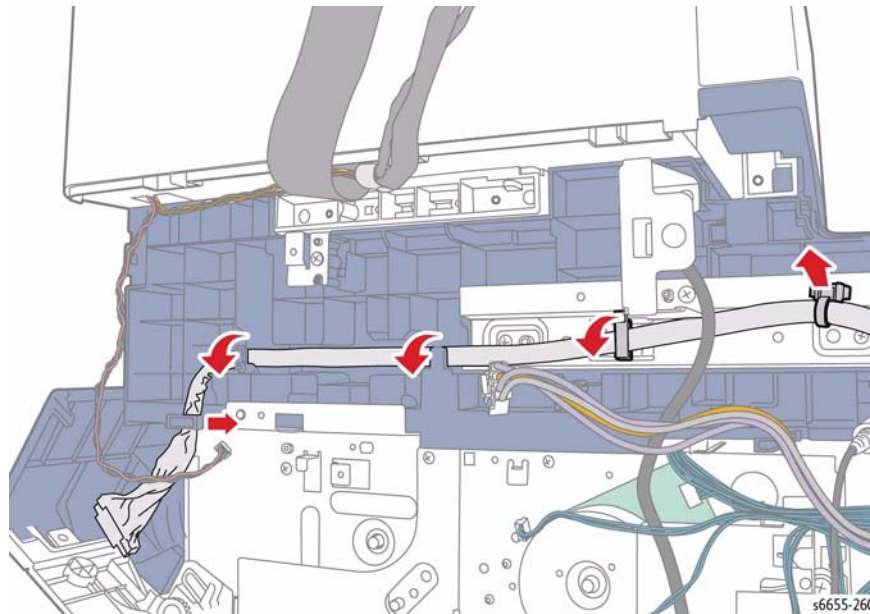

Figure 1 Release the Control Panel Cable
8. Referring to Figure 1, release the UI Control Panel Cable from the cable guide, one clamp, and one tie that secure the cable to the chassis.